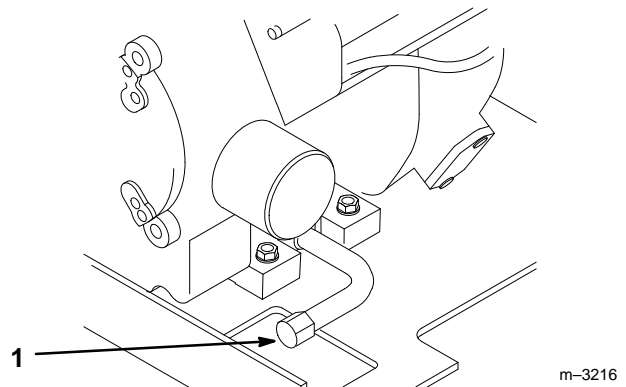

Figure 10
3. Place a pan below the oil drain. Remove the oil drain cap (Fig. 10).